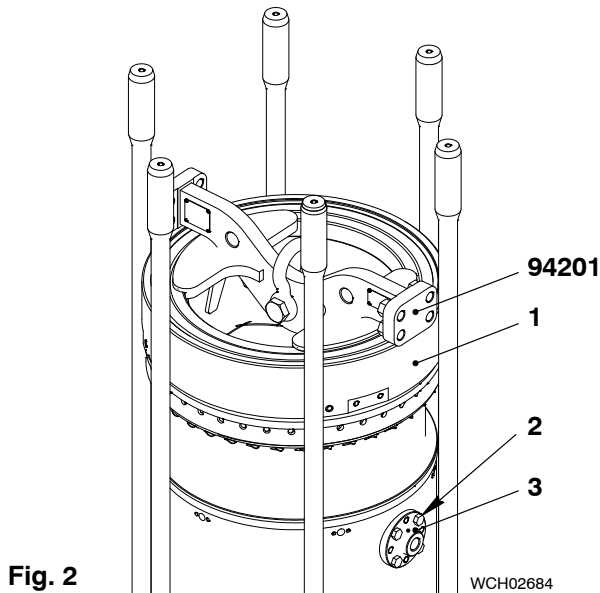

Fig. 2
- 1) Put the top part of the lifting tool (94201) on the cylinder liner (1) as shown in Fig. 2.
- 2) Apply Molyslip Copaslip to the threads of the screws (2).
- 3) Attach the two flanges (part of 94201) to the cylinder liner with the screws (2).